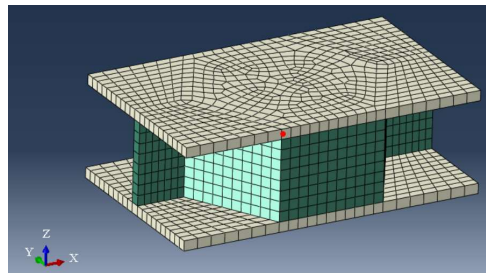

Fig.3 Micro-structure (M0)
(9) Create the RVE micro-structure (RVE, after scaling) as shown in Fig.3 and ensure the RVE is centred at the origin (0, 0) and define the center point of RVE (M0 (red mark), geometric set or node set). Note that M0 is not necessarily on the RVE